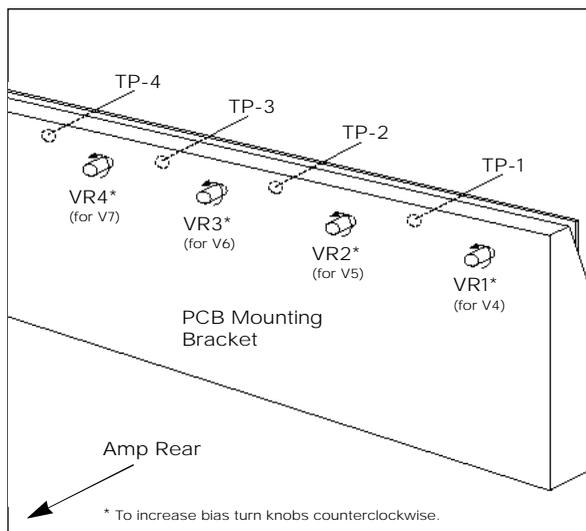

FIGURE 6
2. After removing the top cover, with the front end of the chassis facing you and referring to Fig. 6, observe the location of four test points TP-1, TP-2, TP-3 and TP-4. These are located left to right along the top edge of the main printed circuit board assembly. Also note the position of the four potentiometer adjustment shafts protruding from the rear of the PCB mounting bracket. The potentiometers from left to right are VR1, VR2, VR3 and VR4.